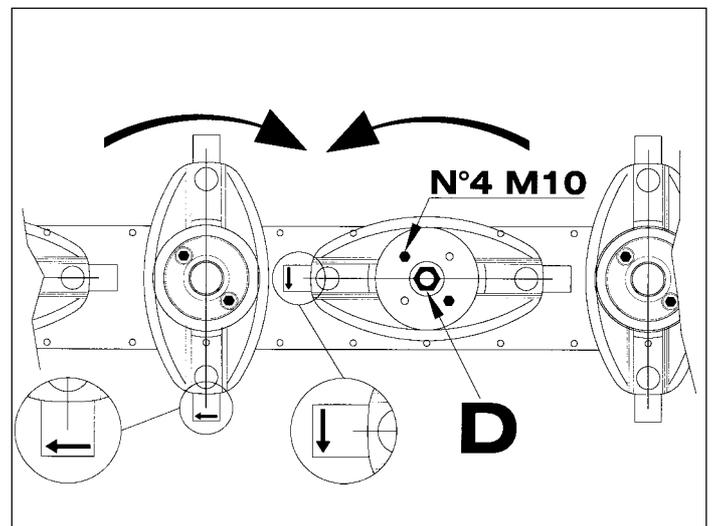

Fig. 17
The oval discs are mounted on a support fixed by four M10 screws the tightness of which must be periodically checked. They must be positioned so that the greater axis of each is perpendicular to that of the adjacent disc (fig. 17).
- * Excessive play on the discs —> make sure that the discs are fixed correctly and that self-locking nut **D** under the disc covers is tight, fig.17 (driving torque 18 Kgm = 180 Nm).